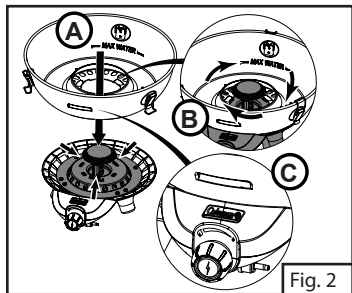

Fig. 2
- The water pan will be pre-assembled to the burner base. If needed, tighten the water pan to the burner base by turning the water pan clockwise (Fig. 2-B) until the viewing window faces the control knob (Fig. 2-C).